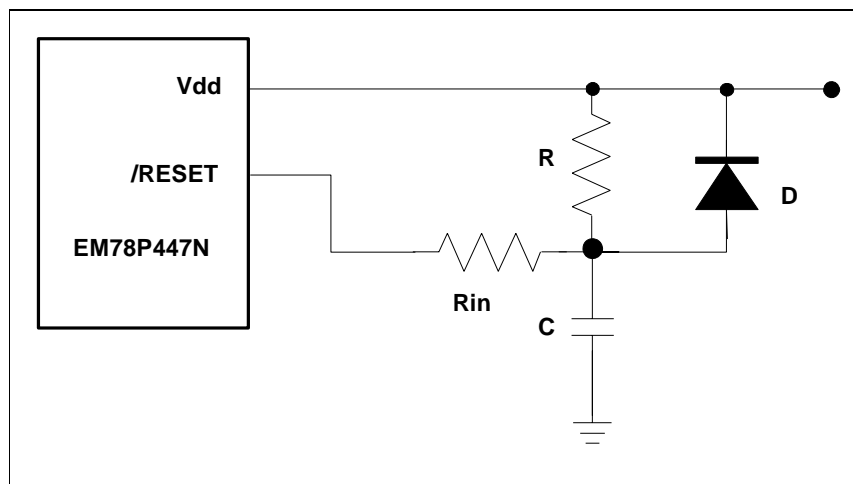

Fig. 4-12 External Power-Up Reset Circuit
The circuit shown in Fig.4-12 implements an external RC to produce the reset pulse. The pulse width (time constant) should be kept long enough for V_{dd} to reach minimum operation voltage. This circuit is used when the power supply has slow rise time. Because the current leakage from the /RESET pin is about $\pm 5\mu\text{A}$, it is recommended that R should not be greater than 40 K Ω . In this way, the /RESET pin voltage is held below 0.2V. The diode (D) acts as a short circuit at the moment of power down. The capacitor C will discharge rapidly and fully. R_{in}, the current-limited resistor, will prevent high current or ESD (electrostatic discharge) from flowing to pin /RESET.